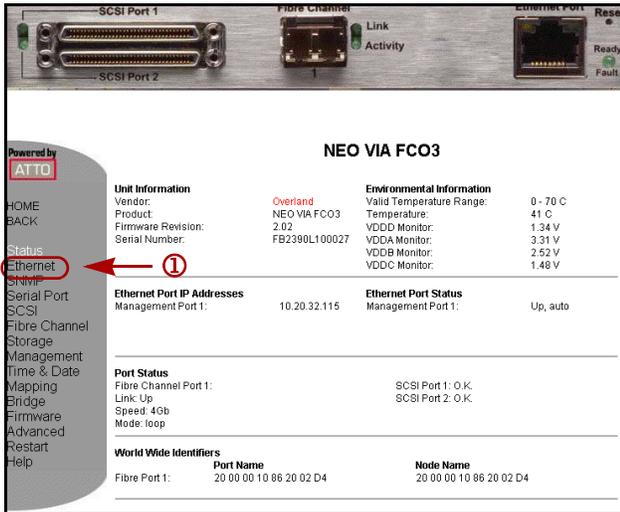

Figure 5. FCO3 Status Screen
- At the Status screen (Figure 5), click **Ethernet** (1) in the left-side menu.